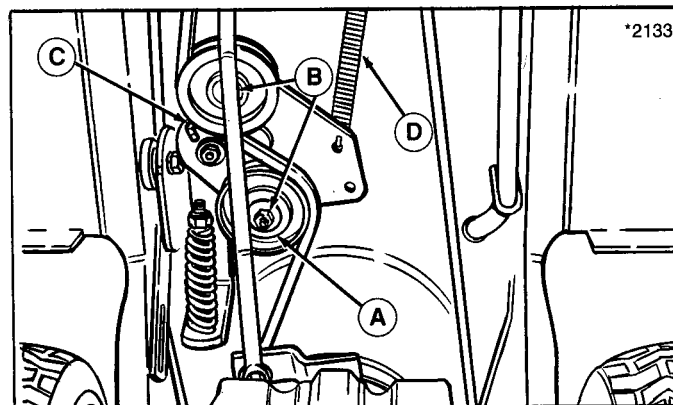

Figure 20.
3. To remove belt from idler pulley (A, figure 20), loosen flange whiz nuts (B) and washers retaining idler pulleys to bracket. Belt will slip from between belt stop (C) and idler bracket.
4. Release parking brake. Rotate idler pulley to relieve spring tension and remove spring (D).
7. On left hand side of tractor, remove nut securing drag link (B) to steering arm (C). Drop old belt below drag link. Route new belt above drag link before reinstalling nut on drag link. Tighten nut.
10. Reinstall idler pulley spring (D, figure 20) to frame with new belt routed between spring and bottom of frame.